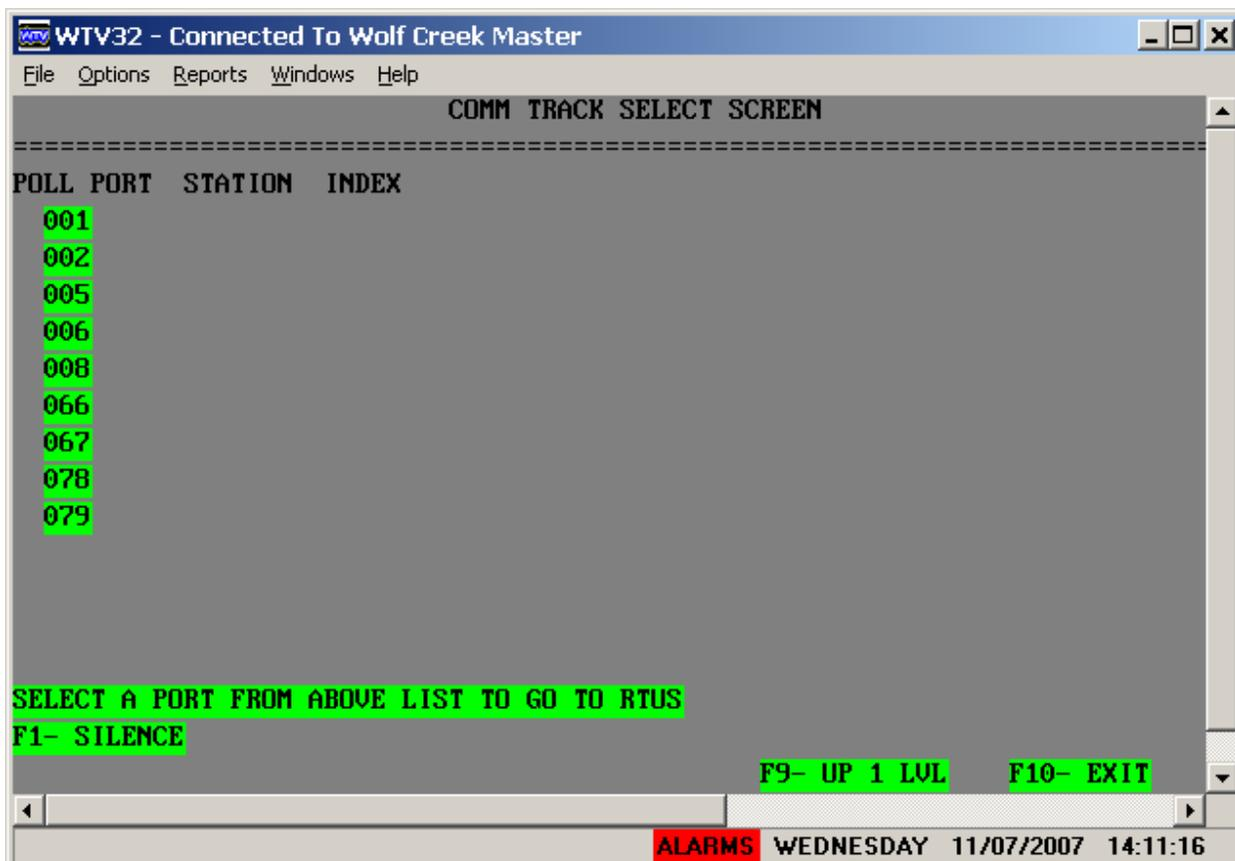

Figure 10. Comm Track Select Screen. From this screen, select a port to display its tracking screen.
1. Select the initialized key or text. For example F2-COMM TRACK to display the COMM TRACK SELECT Screen (Figure 10) listing the available polling port handles. For each port, two other fields are shown: STATIONS and INDEX. The STATION's field shows the station ID of each site as it is polled. The INDEX field shows the station index of each site as it is polled. With these two fields you can view the polling cycle for each port. (The database must be set up to display these analog point fields.)